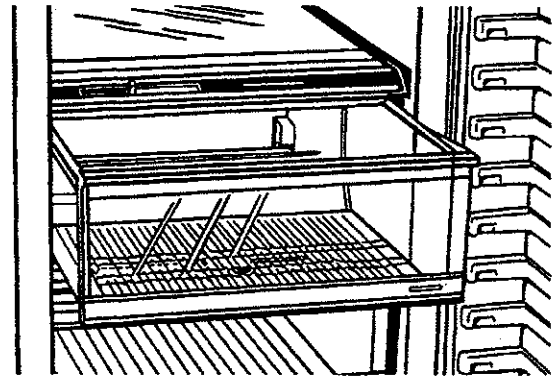

Figure 62
- c. Crisper drawers glide out full length on smooth rollers, even when door is open at 90° angle. To completely remove crisper drawers when door is opened 90°, remove two lower door shelves. See Figure 62.